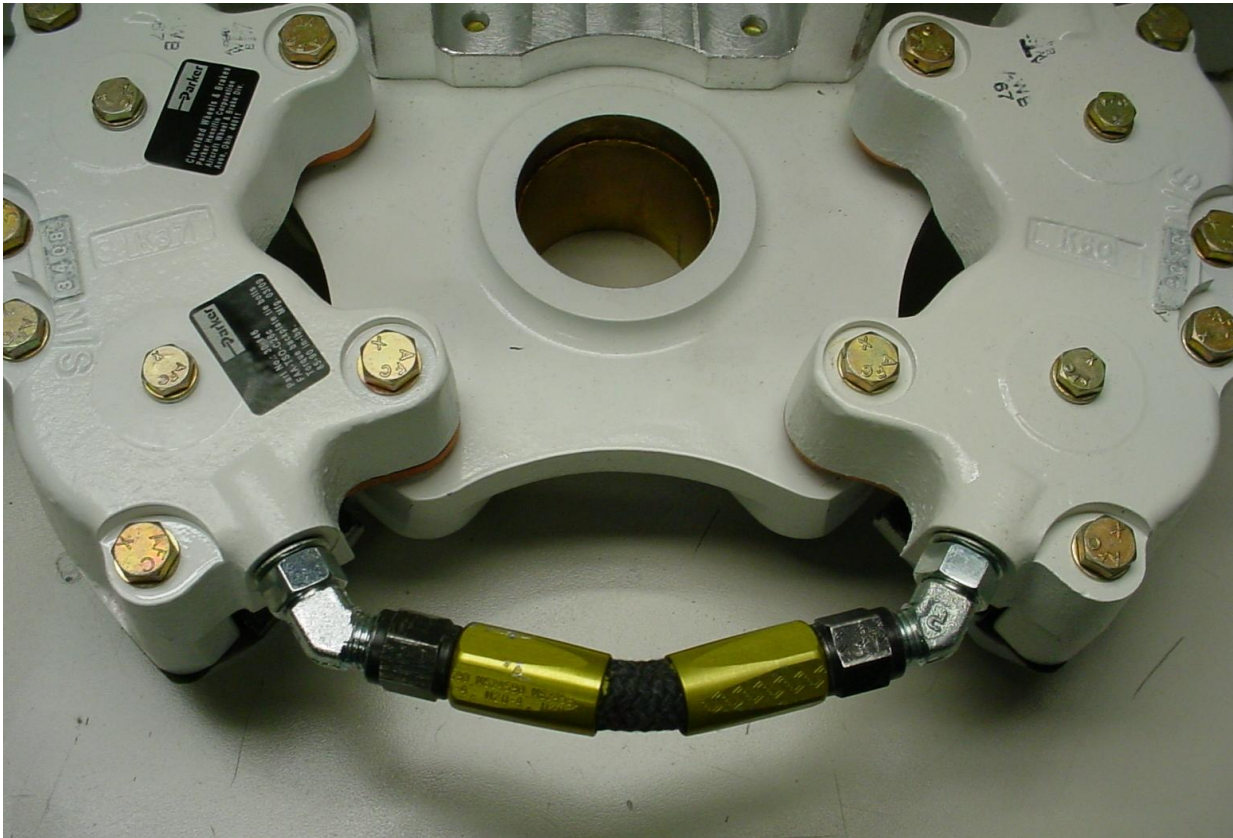
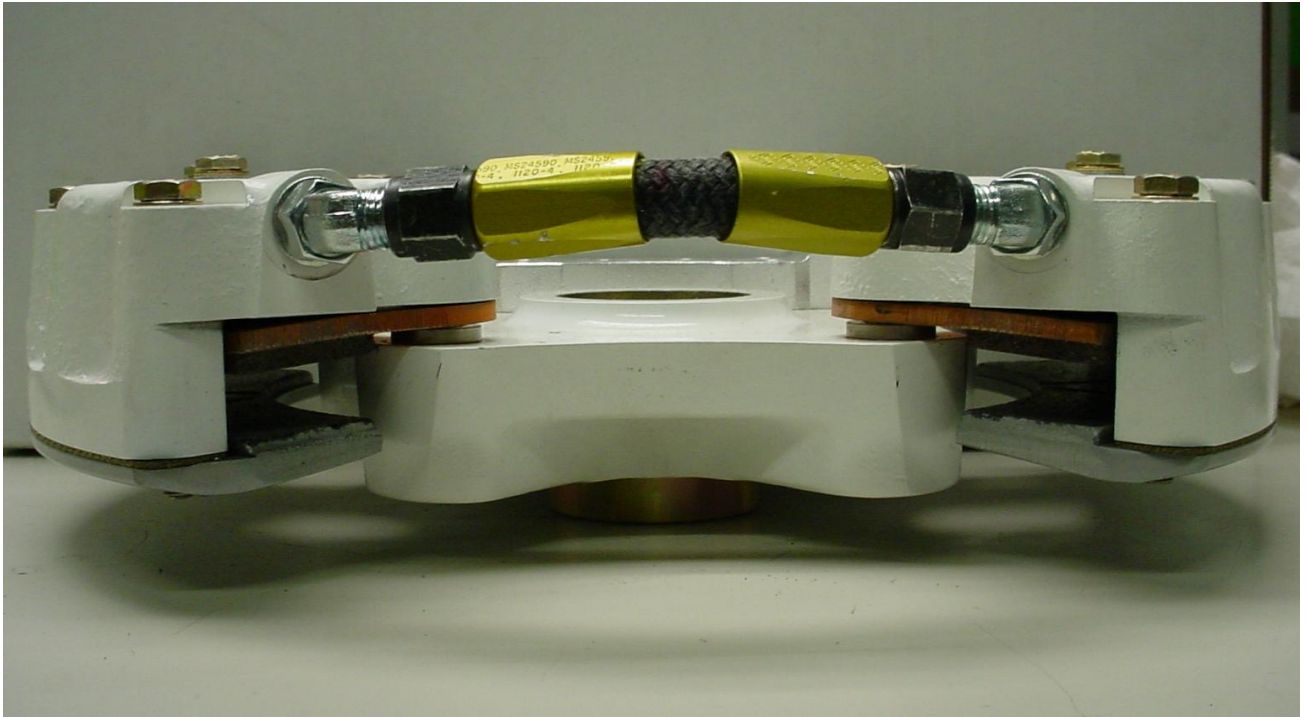

Figure 1
Figure 2
3. Install new 45° fittings, P/N 104-04700 in each cylinder and install brake interconnect hose as shown in Figure 1.
4. The brake hose can be straight as shown in Figure 1, or arched upward as needed for proper fit as shown in Figure 2. Brake line length varies with manufacturing tolerances and various appearances will result when fitting the new line to the brake. The maximum upward arch is .400 inch above the cylinder bolts and clear of the de-ice manifold, if installed.